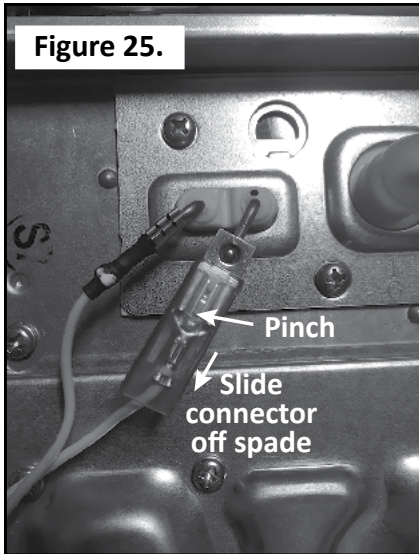

Figure 25.
conductive spade. To release the AFR rod connector, follow the instructions in Figure 25.
- Air-fuel ratio rod/AFR wire (yellow). **NOTICE:** The connector is locked onto the spade. To release the AFR rod connector, follow the instructions in Figure 25, page 37.